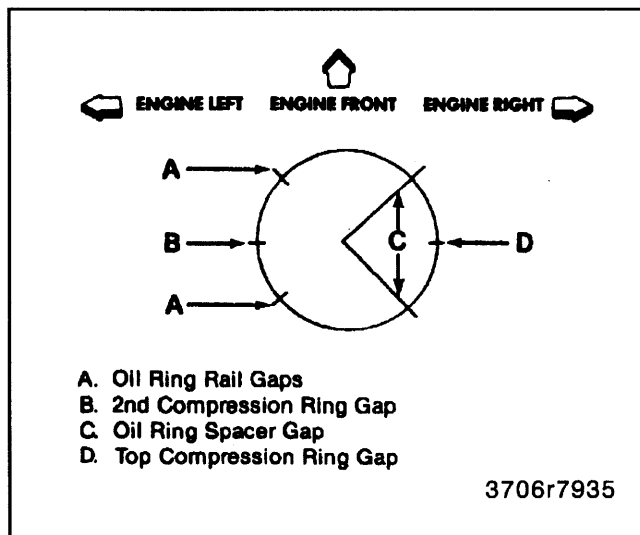

Figure 25—Ring End Gap Location
- Locate the piston ring end gaps as shown in figure 25. Lubricate the piston and rings with engine oil.